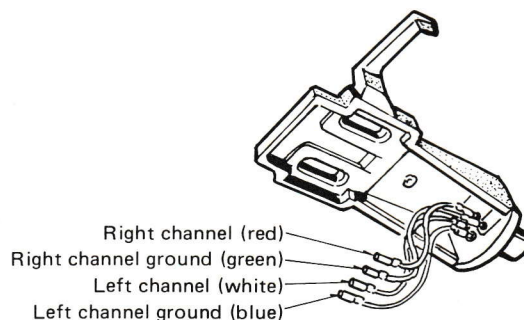

Fig. 14
3. The terminals on the accessory headshell are aligned as shown in Fig. 14. Check the location and polarity of each of the cartridge's terminal pins and then connect the lead wires, taking care not to get the polarities mixed up.